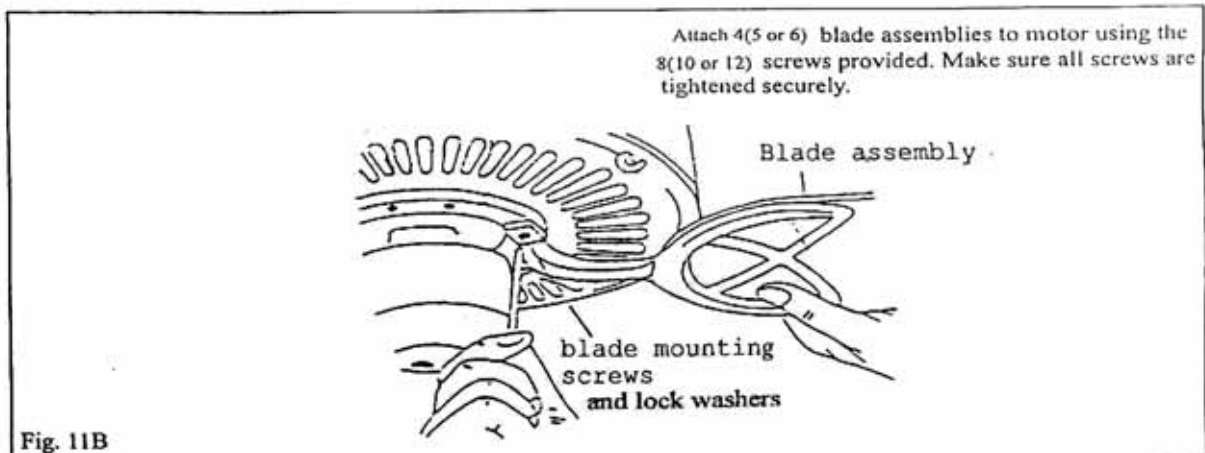

Fig. 11B
4. Fasten blade assembly to motor with provided screws. Repeat procedure for remaining blades. (Fig. 11B)